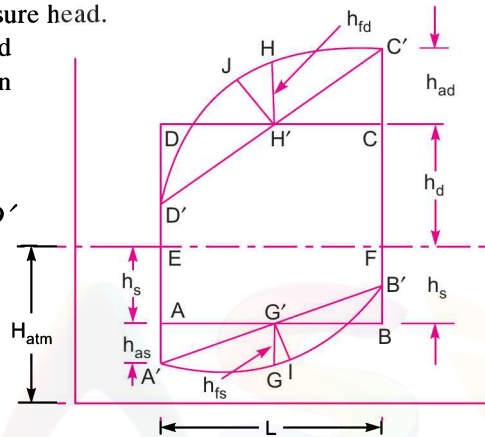

Fig. 20.8 Effect of acceleration and friction on indicator diagram.
**20.8.4 Effect of Acceleration and Friction in Suction and Delivery Pipes on Indicator Diagram.** Fig. 20.8 shows the combined effect of acceleration and friction in suction and delivery pipes. The pressure head in the cylinder during suction and delivery strokes will change as given below :
Thus, the indicator diagram with acceleration and friction in suction and delivery pipes will become as shown in Fig. 20.8.
(Refer to Fig. 20.8). At the beginning of suction stroke,  $\theta = 0^\circ$  and pressure head
(i) **Pressure head in the cylinder at the beginning of suction and delivery strokes (Fig. 20.8).**